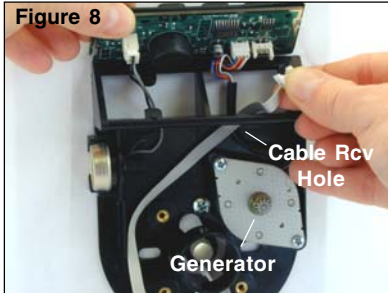

Figure 8
5. Route the ribbon cable toward the keypad so that the cable will not be pinched by the generator. Gently lift the keypad board assembly and guide the cable up through the cable receiving hole in the keypad/base assembly. (Figure 8)